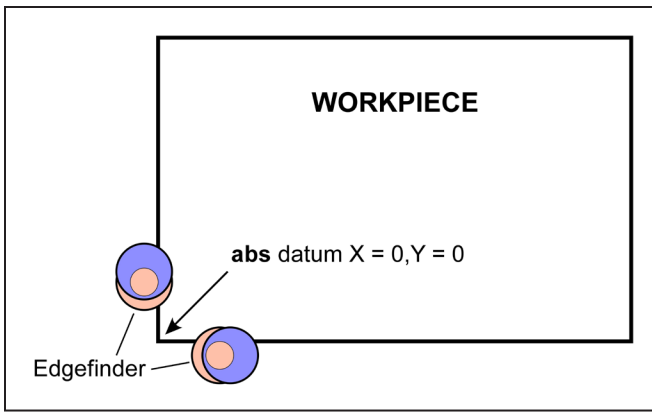

Figure 35 **Workpiece datum example**
- Select the X axis by pressing the ◀ right of the X numerical display. The display reads **Homing ...** [This is exactly the same action that occurs in Paragraph (1), "Locating X-axis reference markers"]
- Move the table to set the spindle over the X axis workpiece datum, Figure 35. How far this is away from the selected reference marker doesn't matter. If you are using a regular mechanical edge finder or probe, allow for the tip radius, then adjust the table by that amount to position the spindle centerline exactly at the edge.